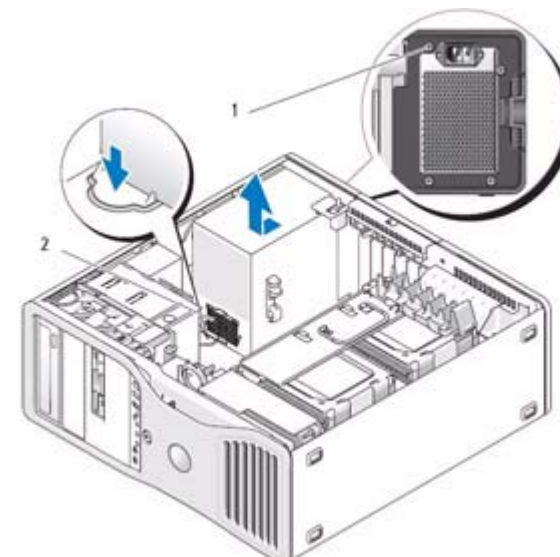

Figure 22:
4. Release and remove the four screws shown in Figure 22 on page 30 that attach the Power Supply to the back of the computer chassis.